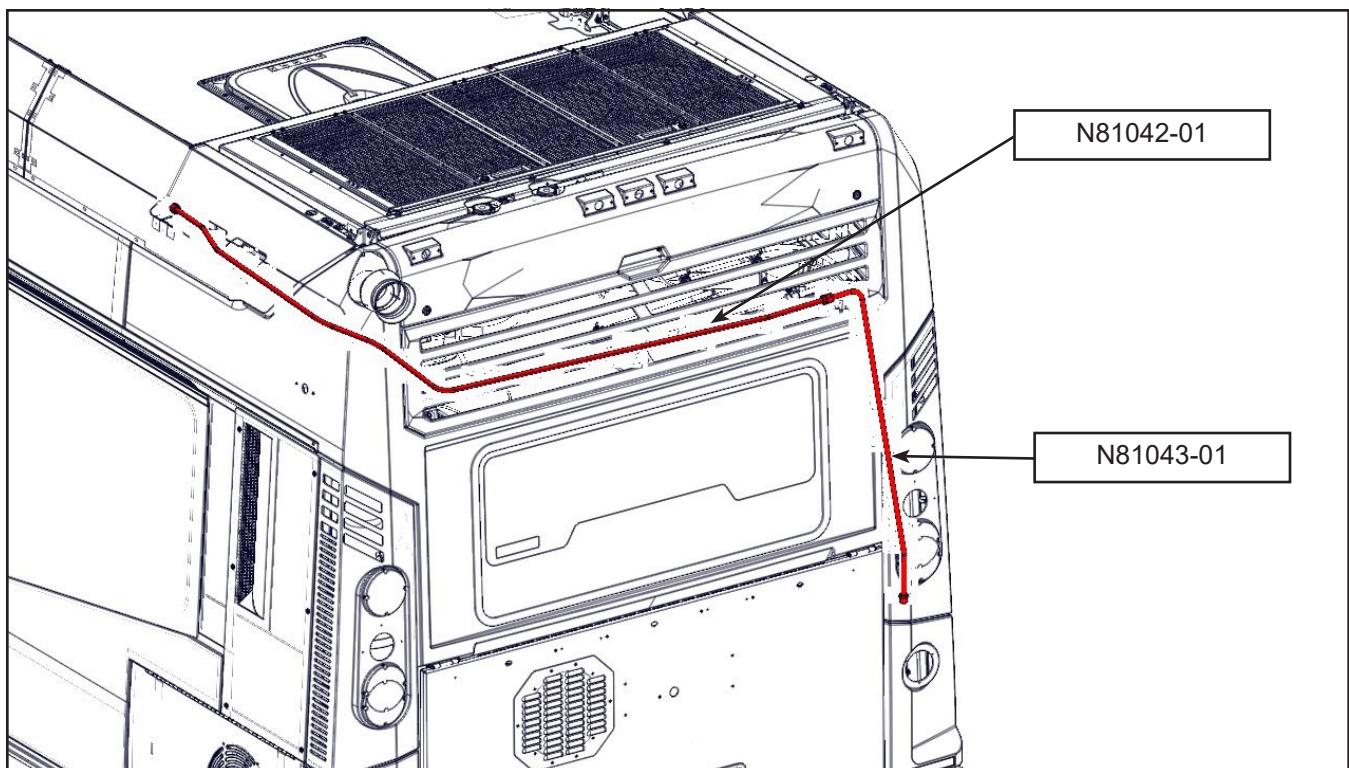

Figure 1 - Hydraulic Pipes N81042-01 & N81043-01
- 1.3. Locate hydraulics pipes N81042-01 and N81043-01 (Figure 1).